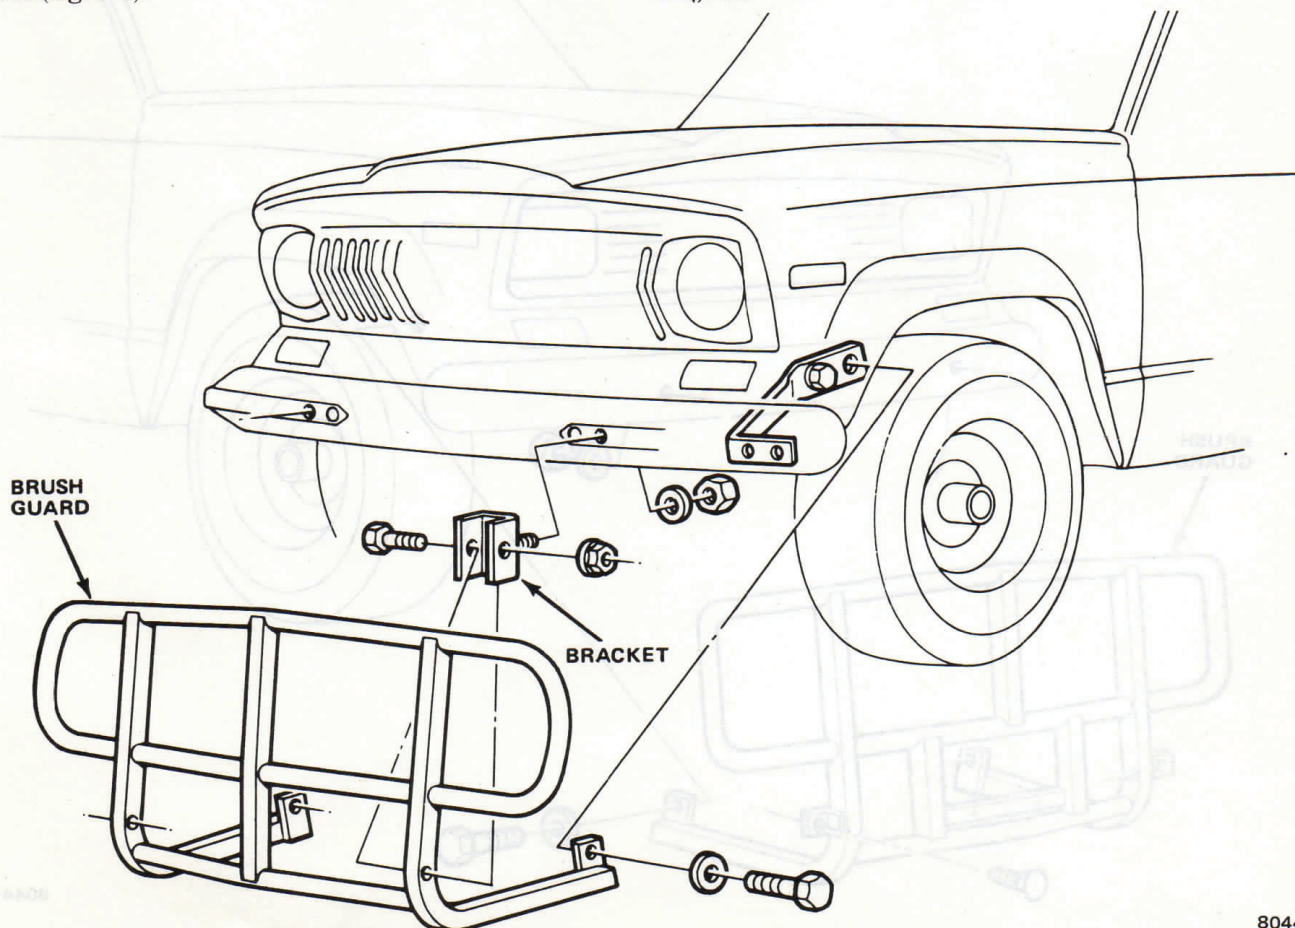

Fig. 9-1 Brush Guard Installation—1976-1978 Cherokee-Truck Models
(1) Remove necessary bumper end rail attaching nuts and bolts to provide access holes for brush guard brackets (fig. 9-1).
(2) Position brackets on bumper and install attaching washers and nuts.